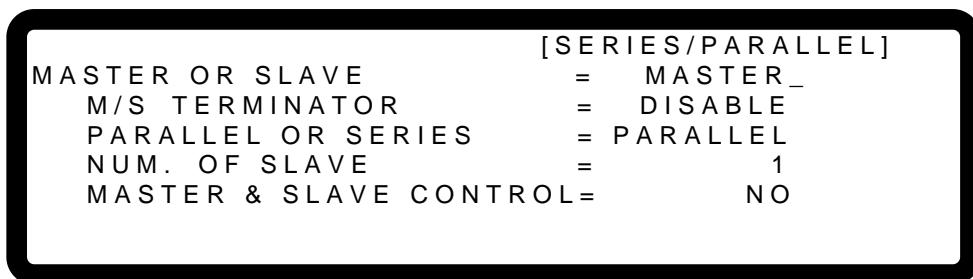

Figure 3-37
1. In the Config Setup page, press “**3**” then “**ENTER**” to select PARALLEL /SERIES as shown in Figure 3-37.